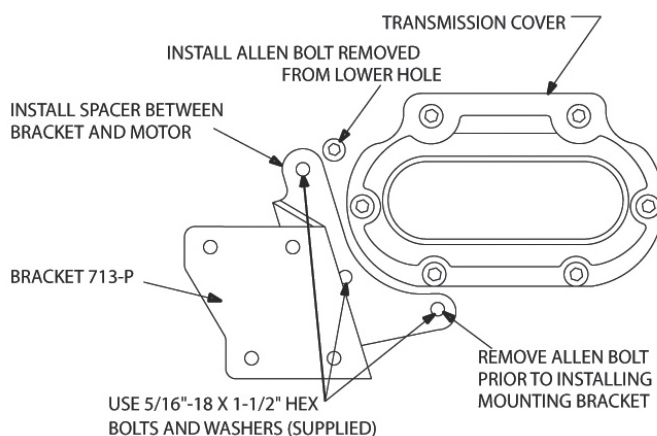

Figure 1
9. Remove left-hand bolt below the transmission cover. Position mounting bracket 713-P over mounting location to determine which bolts to remove (Figure 1). Install this bolt in the top hole left vacant by the new bracket.
1. Attach mounting bracket 713-P (supplied) to transmission using three  $\frac{5}{16}$ " x  $1\frac{1}{2}$ " hex bolts and  $\frac{5}{16}$ " flat washer combinations (supplied) (Figure 1).